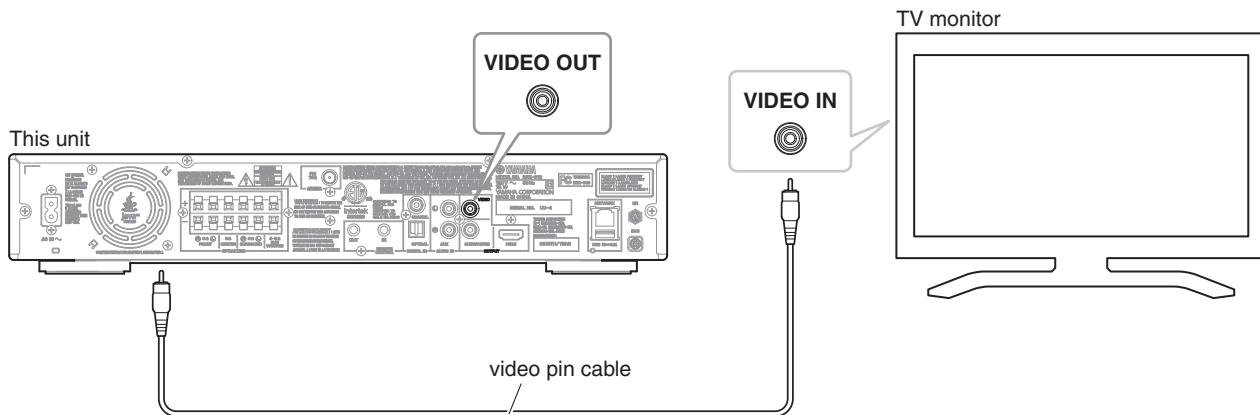

Fig. 4
3. Connect the VIDEO IN jack of the TV monitor to the VIDEO OUT jack of this unit as shown below. (Fig. 4)